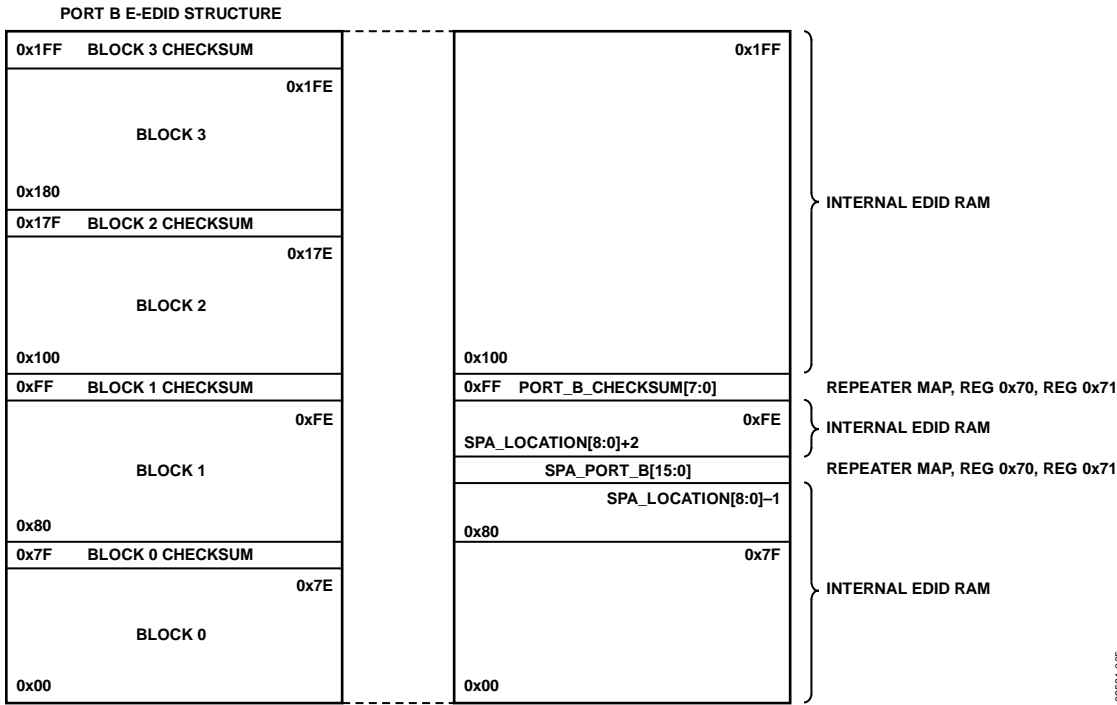

Figure 6. Port B E-EDID Structure and Mapping for SPA Located in E-EDID Block 1
- Figure 6—SPA located in E-EDID Block 1